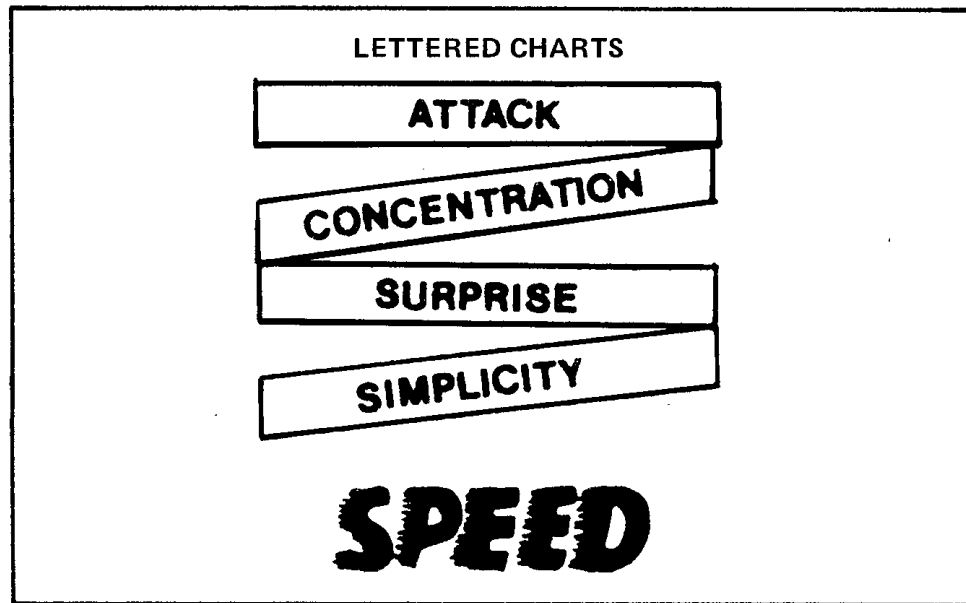

Figure 10-3 Lettered Charts
- (3) **Lettered Charts** — (See Figure 10-3.) Should not contain more than from 12 to 20 words: